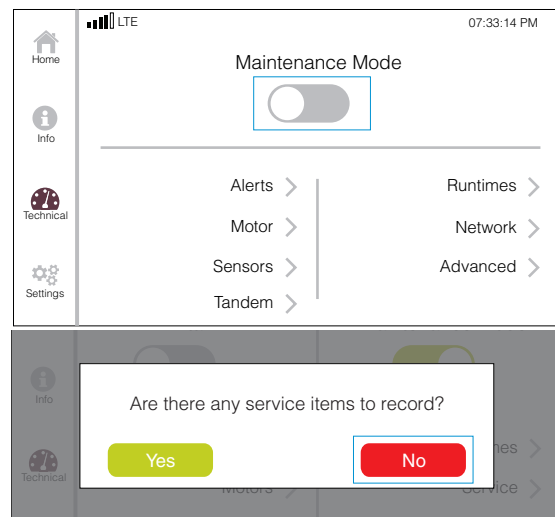

FIGURE 53. DISABLE MAINTENANCE MODE
11. On the Technical screen, press and disable **MAINTENANCE MODE**. Press **NO** on the pop-up dialogue box (FIGURE 53).